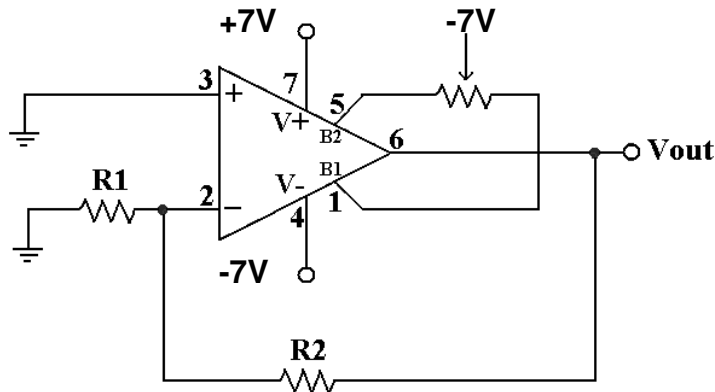

Fig. 6. Elimination of offset voltage
- To minimize the offset voltage, **turn off the power supply first** and connect a 25k Ω potentiometer (pot) to pins 1 and 5 as shown in Fig. 6. **Be sure to connect the wiper of the pot to the -7V supply.** Reapply the power supply and use the pot to zero the Opamp's output. This is how offset voltage is compensated.